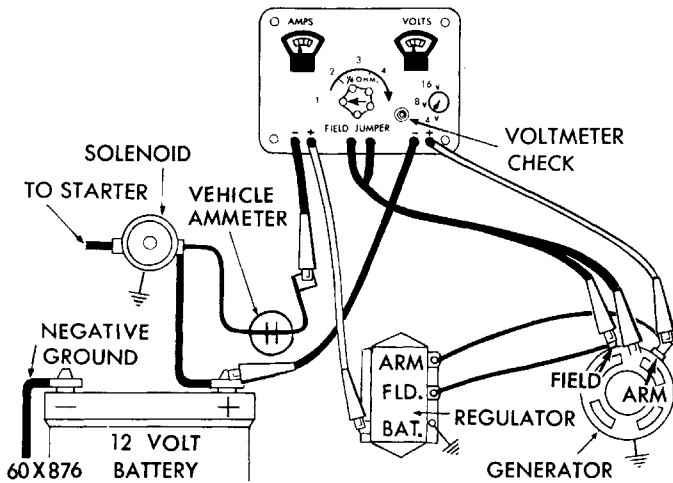

Fig. 2—Insulated Circuit Resistance Test
(3) Disconnect the battery wire from the regulator "B" terminal and connect test ammeter negative lead to the battery wire that was disconnected and ammeter positive lead to the regulator "B" terminal, as shown in Figure 2.
(4) Connect positive voltmeter lead to the armature terminal of the generator and the negative lead to the positive battery post.
(5) Connect a jumper wire from generator "F" (field) terminal and a good ground.
(6) Start engine and adjust speed until ammeter reads exactly 20 amperes. Reading indicated on voltmeter scale represents the voltage loss in the insulated side of the charging system.